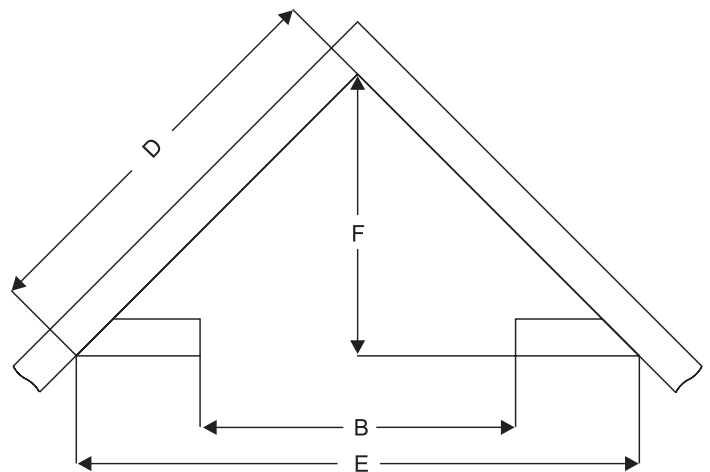

Figure 32 - Rough Opening for Installing in Corner
- Use dimensions shown in Figure 32 for corner rough opening. Be sure to provide gas line and electrical power for fireplace assembly.